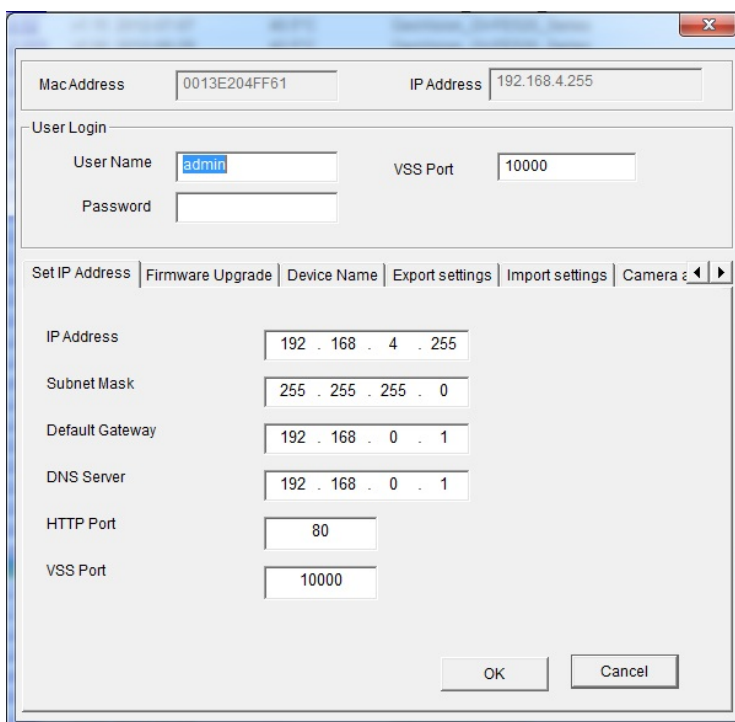

Figure 7-3
2. Double-click the GV-IP Speed Dome in the list. Figure 7-3 appears.
1. In Figure 7-3, click the **Import Settings** tab. This dialog box appears.